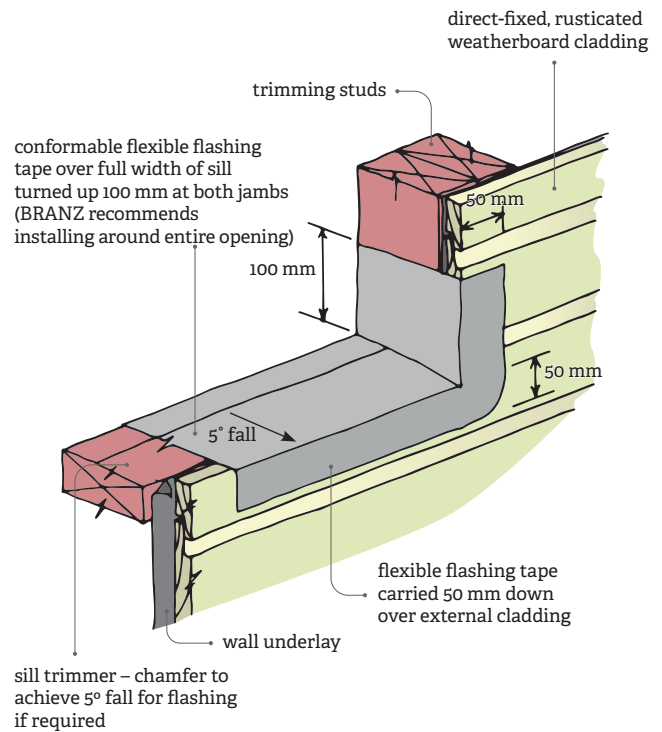

Figure 2. Install flexible flashing tape at window opening sill.
- over the full width of the sill, turned up at both jambs and carried over the external face of the cladding (Figure 2).